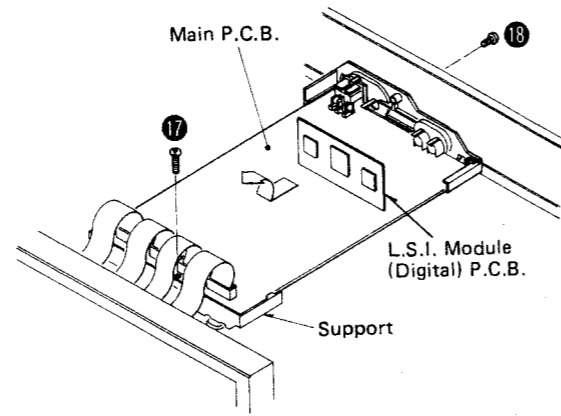

Fig. 10
2. Remove the 2 setscrews [Fig. 10: 17 ~ 18] of the main P.C.B.
4. Remove the main P.C.B. in the direction of the arrow as in Fig. 10.